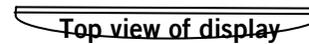

Fig. 4
Some Plasma displays have curved backs with recessed mounting lands. (Fig. 4) For best fit on this type of display, install the 5/8" spacer (L) (Fig. 5) between the display and the mounting rail.